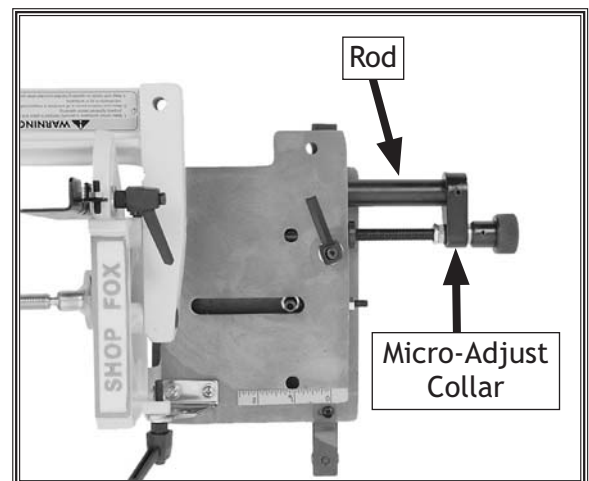

Figure 10. Micro-adjust assembly properly installed.
8. Slide the micro-adjust collar onto the rod, align the micro-adjust screw with the threaded guide shaft of the slide plate, then rotate the knob clockwise until the collar is even with the rod, as shown in **Figure 10**.